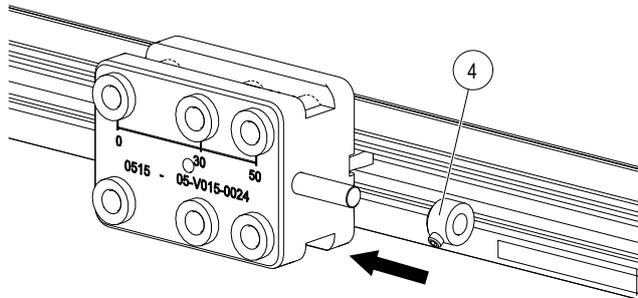

Fig. 89: Slide stop ring (4) over step drill M3 90°
- Slide the stop ring (4) over the step drill M3 90° (see Fig. 89).